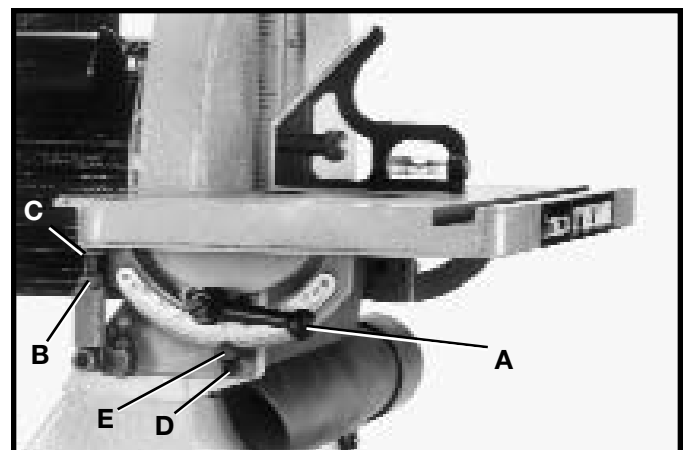

Fig. 12
2. Place an accurate square on the table with one end of the square against the disc, as shown in Fig. 12. If the table is not square to the disc, proceed as follows: Loosen the table locking handles, one of which is shown at (A) Fig. 12, located on each end of the table. **NOTE:** Table locking handle (A) Fig. 12, is spring-loaded and can be repositioned on the stud by pulling out the handle and repositioning it on the nut.
3. Loosen locknut (B) Fig. 12, and adjust screw (C) accordingly until table is square with the abrasive disc. Then tighten table locking handles and locknut (B).
4. Loosen screw (D) Fig. 12, and adjust pointer (E) until it points to the "0" mark on the scale. Then tighten screw (D).